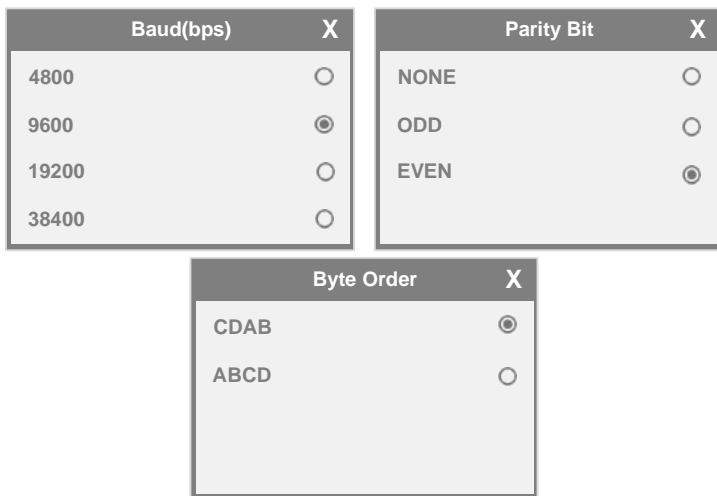

Figure 56 Communication Interface
- 4) The peristaltic pump communicates through RS485 with default settings of 9600 communication rate, 8 data bits, even parity check, and 1 stop bit. These parameters can be modified in the common parameters of the communication settings, as shown in Figure 56. Once successfully connected, the pump functions can be controlled by the communication device.